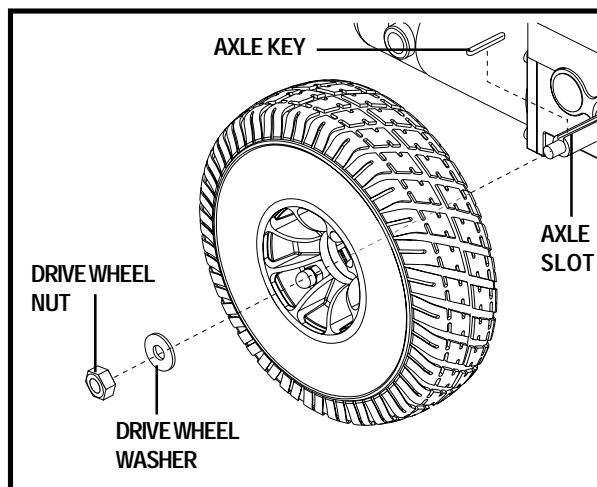

Figure 31. Quantum Dynamo 1107 Drive Wheel
4. Remove the drive wheel nut and washer from the axle. See figure 31.